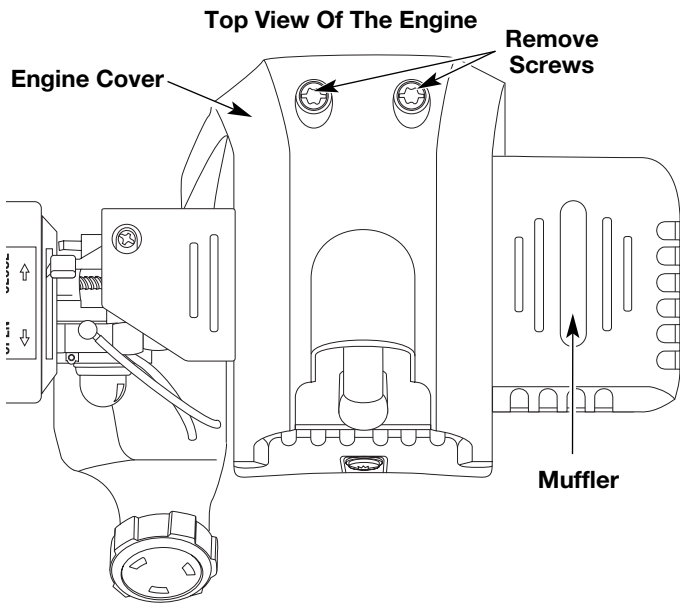

Fig. 23
- Remove the two (2) screws on top of the engine cover with a Flat-head or T-25 Torx screwdriver (Fig. 23).
3. Replace cracked, fouled or dirty spark plug. Set the air gap at 0.025 in. (0.635 mm.) using a feeler gauge (Fig. 23).